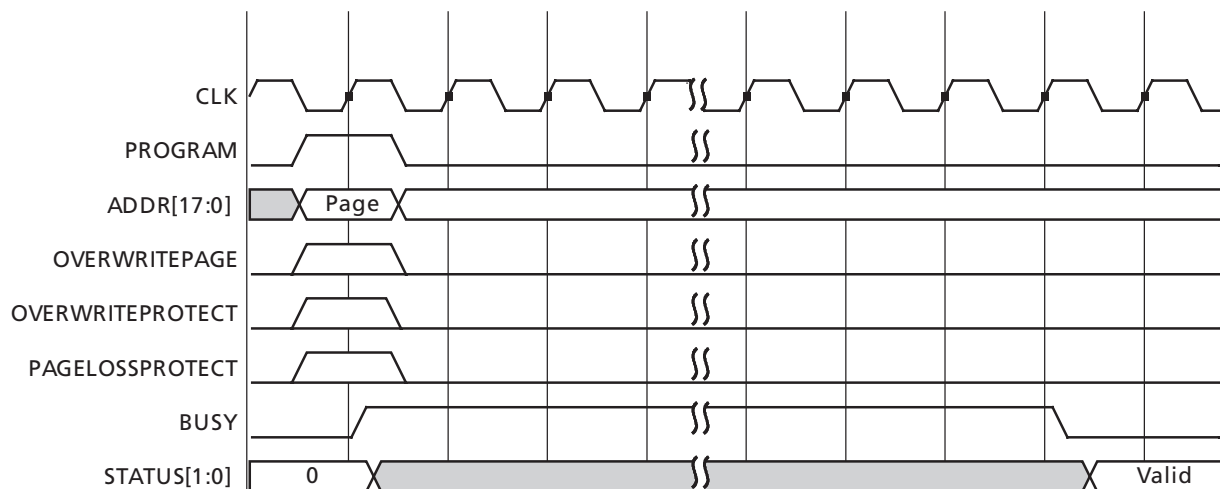

Figure 2-36 • FB Program Waveform
- The waveform for a Program operation is shown in Figure 2-36.